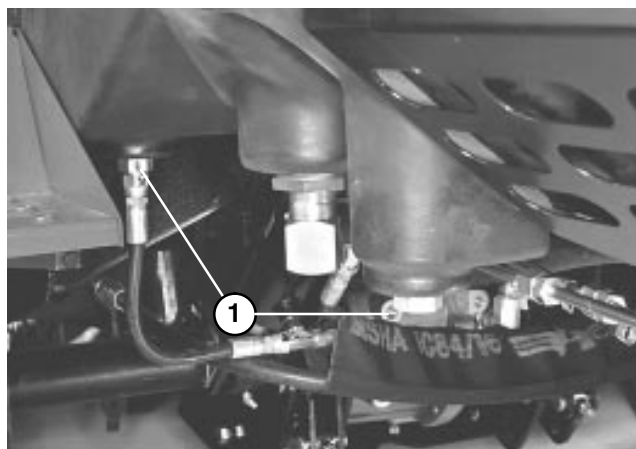

Figure 45
CHANGING HYDRAULIC OIL (Fig. 45 & 46)
2. Remove drain plug from rear of reservoir and hydraulic line from front of reservoir (Fig. 45) and let hydraulic oil flow into drain pan. Reinstall and tighten plug and line when hydraulic oil stops draining.